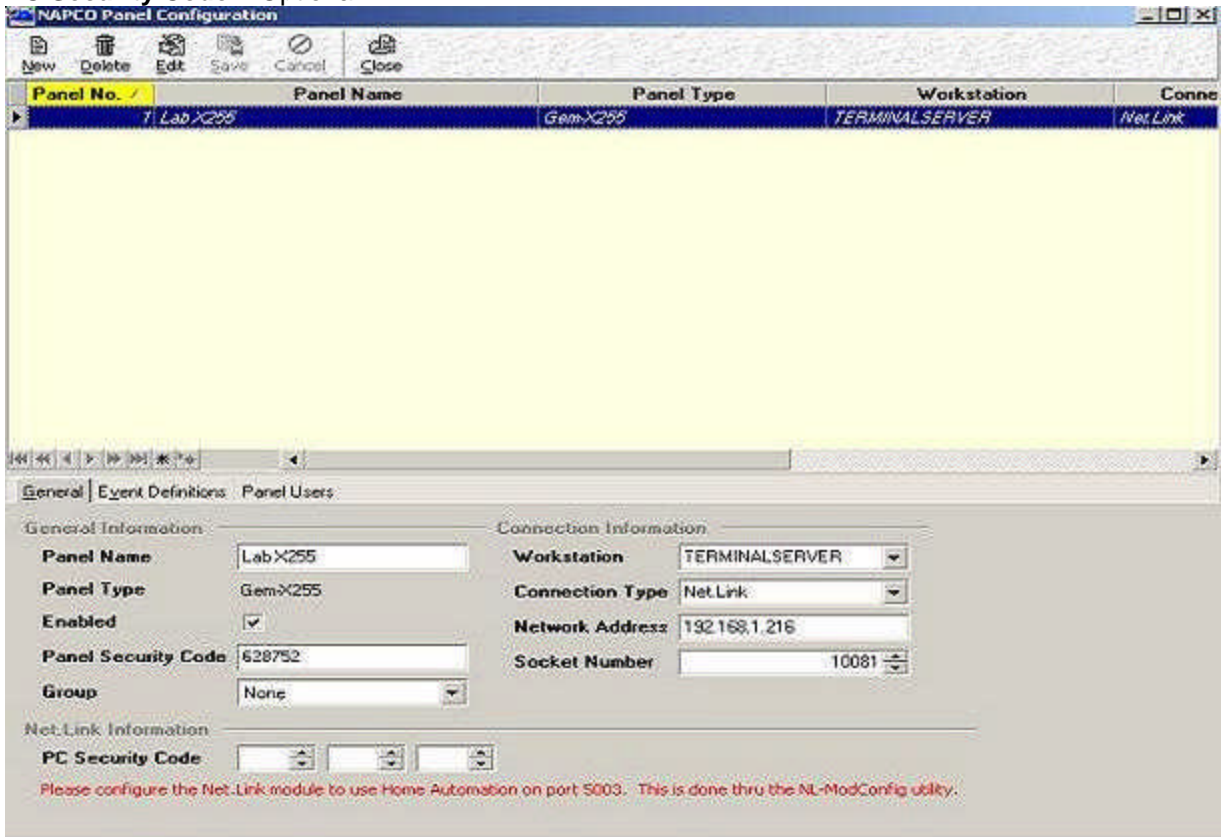

Figure 2.
2) Configure the **Napco Panel** screen (General tab) as follows. Refer to figure 2.
- Assigning a **PC Security Code** is optional. For this example, we will not use one. If it's mandatory you use one, you must also configure in the CA3000 Napco Panels screen (refer to figure 2).